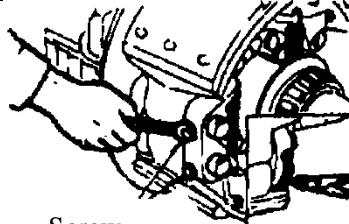

Figure 3-4
a) Removing steel wire and screws (Figure 3-4).